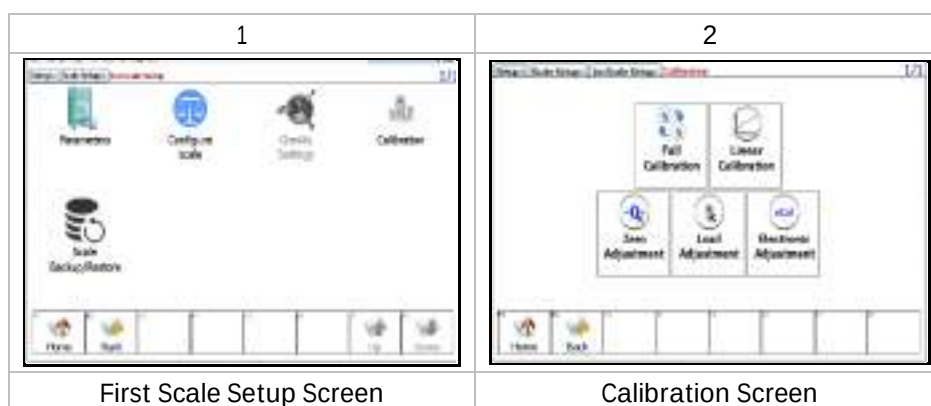

Figure 5-3
1. Click the Full Calibration icon on the Calibration Screen in Figure 5-3, then the "Unload Scale" message displays.
1. Click the Linearity Calibration icon on the Calibration Screen in Figure 5-3, then the "Unload Scale" message displays.
1. Click the Zero Adjustment icon on the Calibration Screen in Figure 5-3.
1. Click the Load Adjustment icon on the Calibration Screen in Figure 5-3.